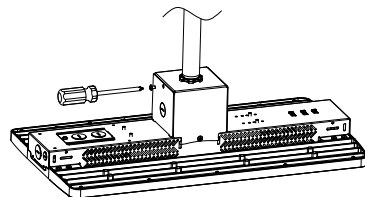

Figure 5
Step 4. Secure the side bracket with screws provided (Figure 5).